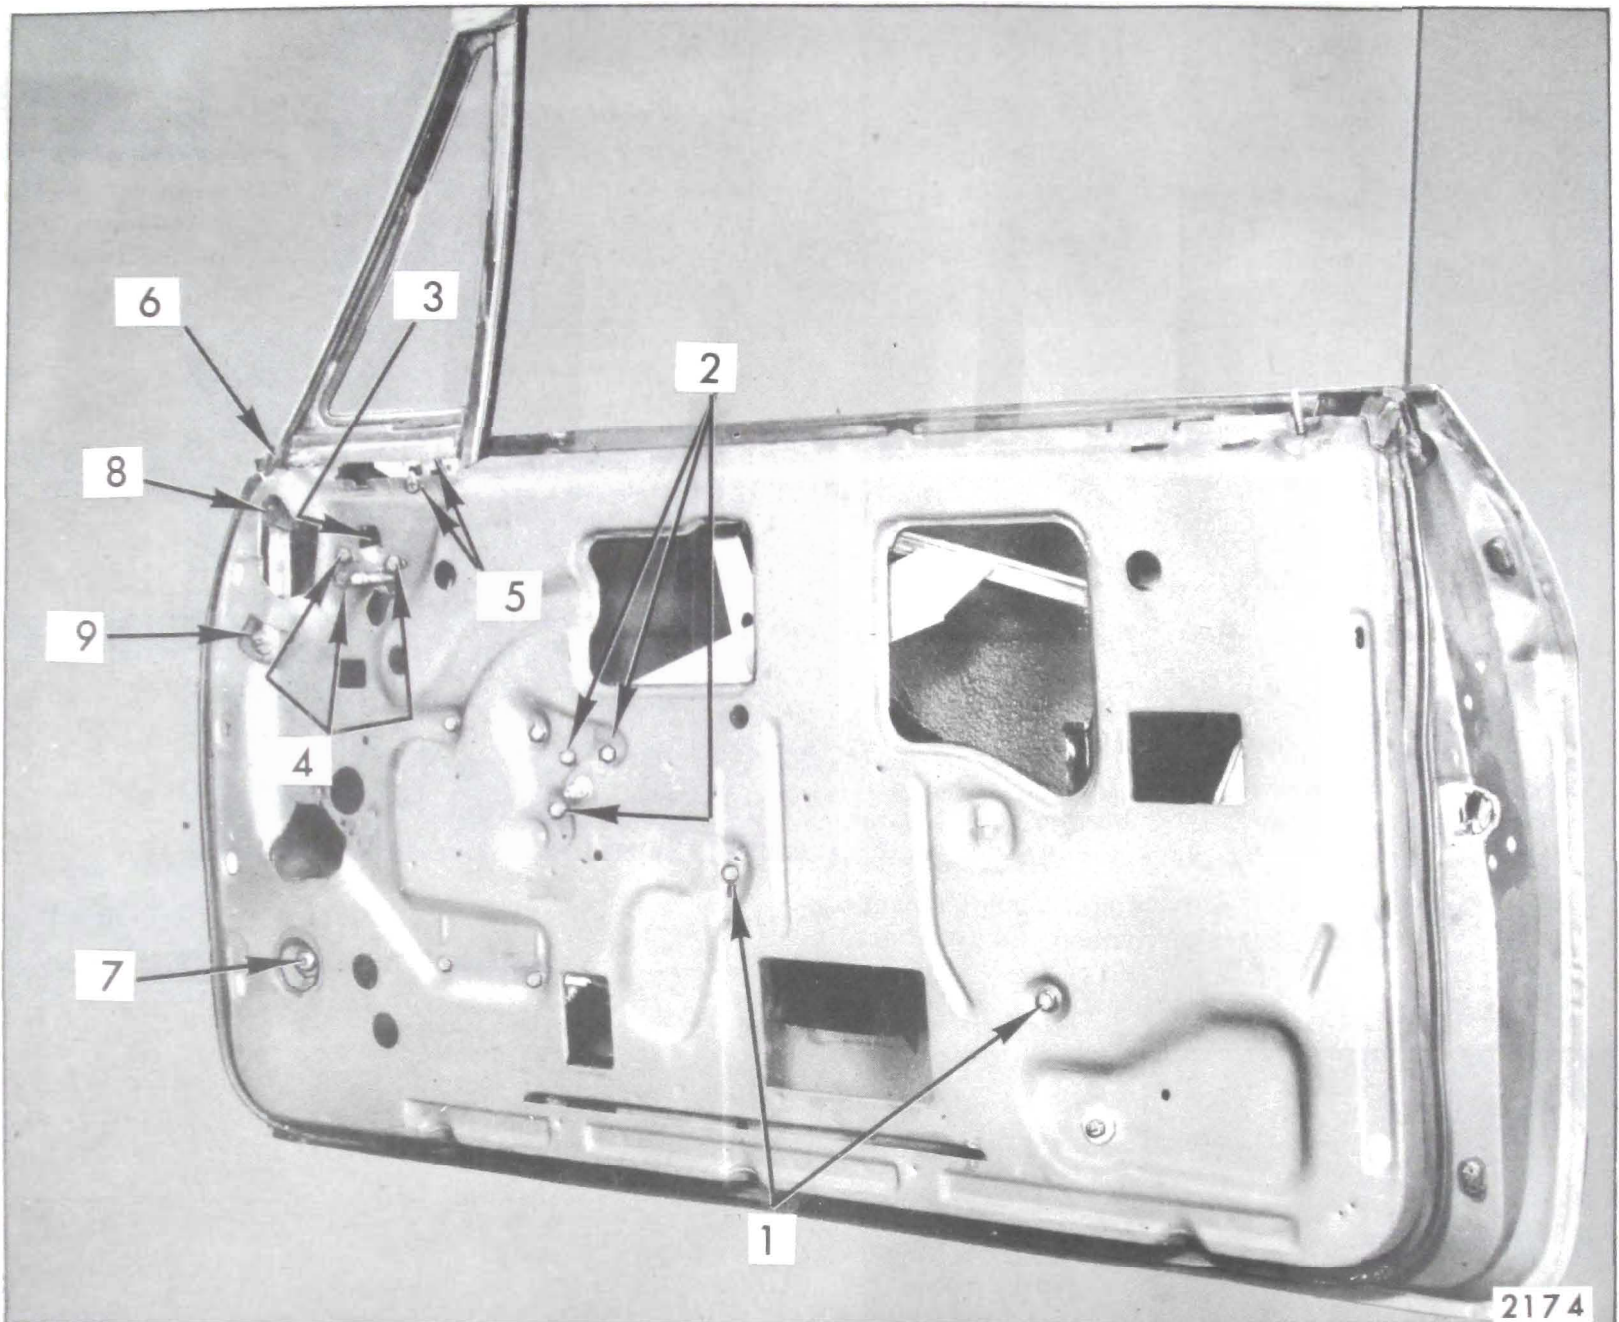

Fig. 7-59—Front Door Hardware Attachment - "B &amp; C" Styles
2. Remove bolts securing remote to door inner panel ("2", Fig. 7-59).
3. Remove ventilator T-shaft attaching bolt "3" and ventilator regulator to inner panel attaching bolts "4" (Fig. 7-59).
2. Remove screws securing ventilator lower frame to door outer panel return flange and to door inner panel ("5", Fig. 7-59).
3. At front of ventilator assembly, break cement bond between door weatherstrip and ventilator assembly ("6", Fig. 7-59).
4. Remove ventilator division channel lower adjusting stud nut ("7", Fig. 7-59).
6. Remove ventilator lower frame attaching bolt "8" and ventilator lower frame adjusting stud nut "9" (Fig. 7-59).
- a. Remove ventilator lower frame to inner panel and ventilator lower frame to outer panel screws ("5", Fig. 7-59).